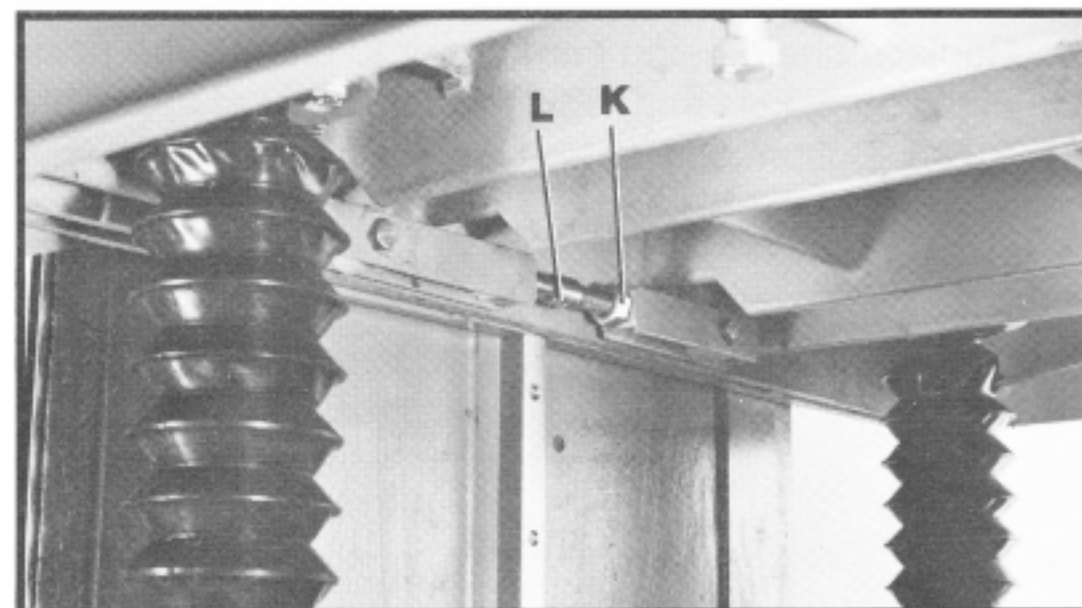

Fig. 39
2. If an adjustment to the outfeed roller is necessary, loosen jam nut (K) Fig. 39, located on the left side of machine under the table, and turn collar (L) right or left as needed until the outfeed roller is adjusted properly.
3. Tighten jam nut (K) Fig. 39.